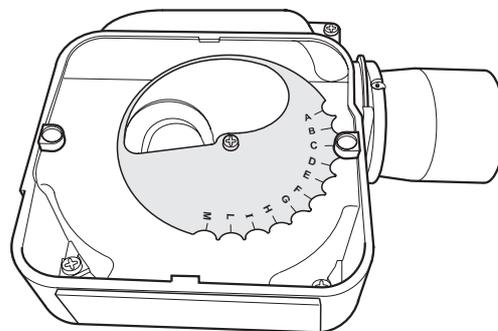

Fig. 22 - 50/70 air adjuster disc at position 'C'
To adjust the 50/70 air adjuster disc when downrating - See Fig. 22
5. The secondary air shutter disc is factory set in position 'C' – i.e. with the cut-out marked C located against the die-cast boss on the fan housing - suitable for outputs of 18.3 and 21 kW only. See Fig 22.